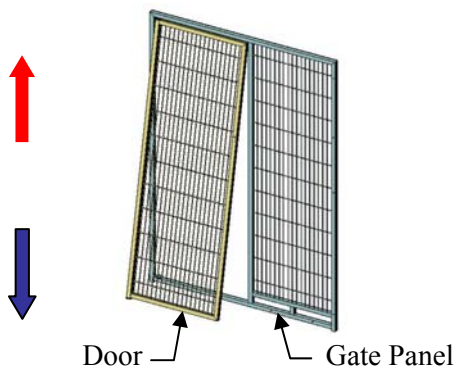

Figure 15
2. Locate the Gate Panels and remove the Door from each Gate Panel. Slightly open and lift up on the door. Once the Door clears the hinge pin at the bottom, pull the bottom of Door toward you (**Figure 15**). Pull the top of the Door down until the top of the Door clears the top hinge pin.